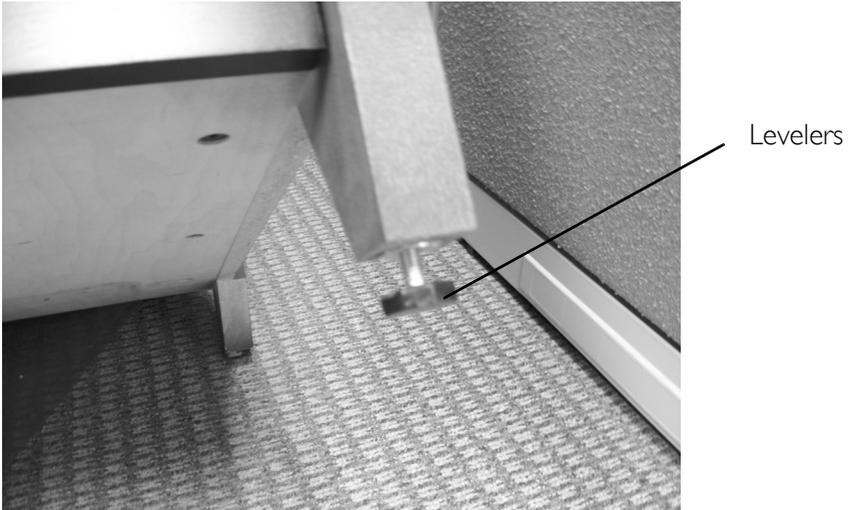

FIGURE 2 Leveler Instructions for Halifax Collection
- ① For this procedure, refer to FIGURE 2.